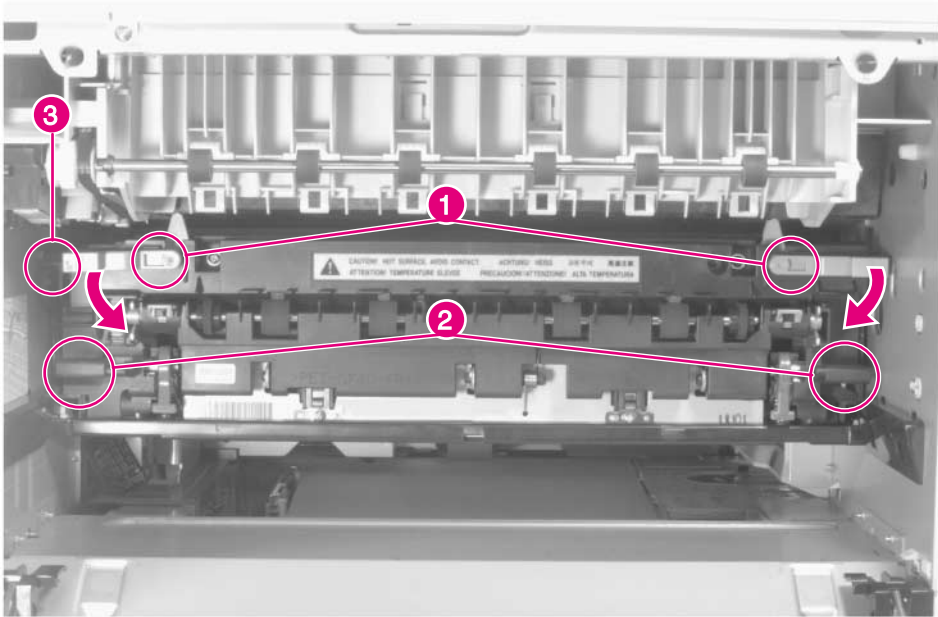

Figure 6-36 Fusing Assembly
- 2 Remove the Fusing Assembly (see figure 6-36 on page 302).
- 2 To release the Fusing Assembly rotate the upper levers down (figure 6-36, callout 1).
- 3 To remove the Fusing Assembly lift up on the finger handles (figure 6-36, callout 2) while pulling outward.
- 1** Make sure that the Fuser Output sensor flag (figure 6-36, callout 3) on the upper left corner of the Fusing Assembly rotates freely.